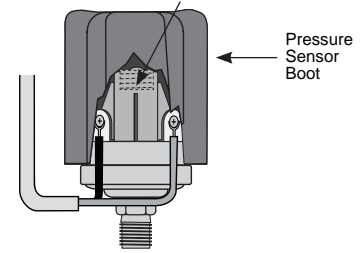

Figure 5A: Pressure Sensor
10. Connect the other end of the pressure sensor cable with the two spade terminals to the pressure sensor. The connections are interchangeable (Figure 5A).
- a. Remove the rubber end-cap (Figure 5A).
- d. Cover the pressure sensor terminals with the rubber boot provided (Figure 5A).